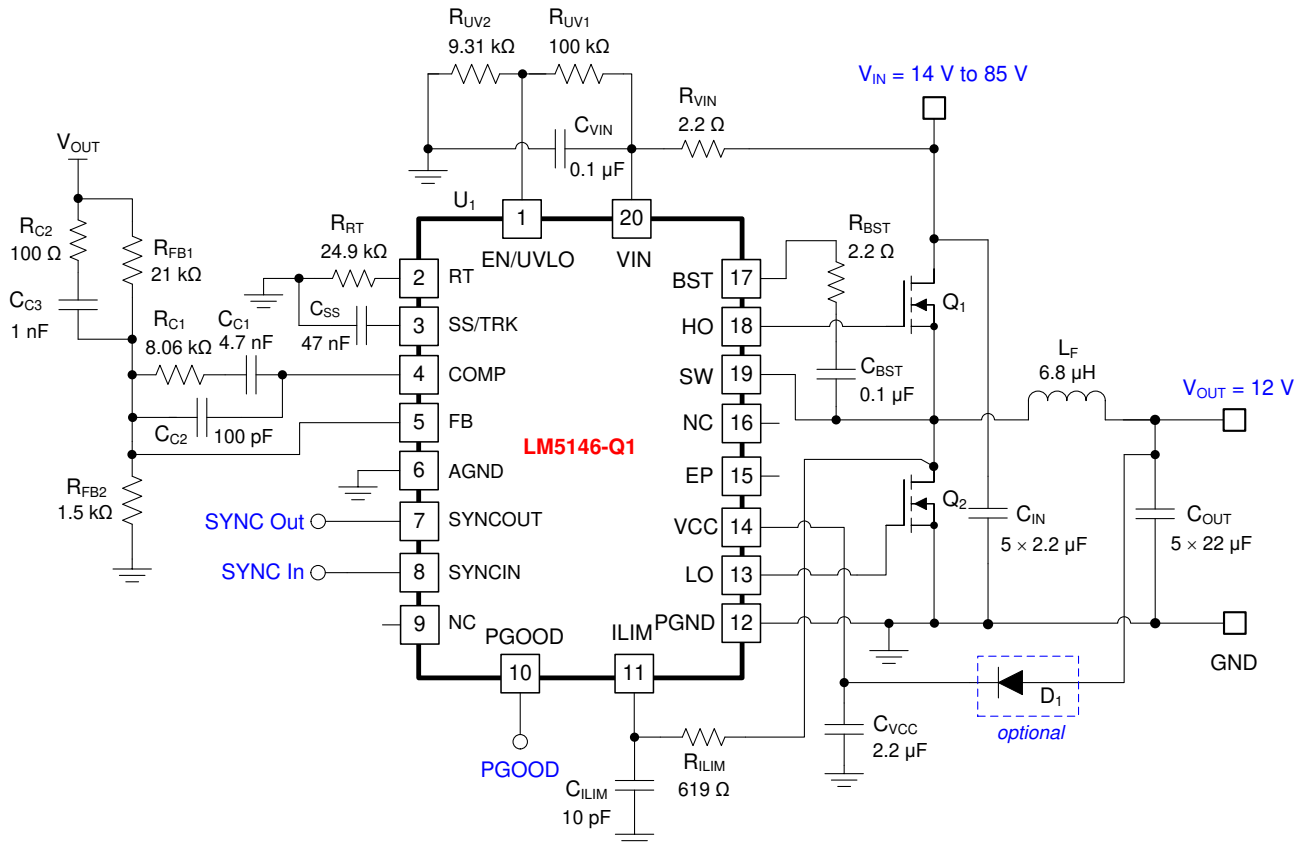

Figure 9-16. Application Circuit 2 With LM5146-Q1 48-V to 12-A Synchronous Buck Regulator at 400 kHz
Figure 9-16 shows the schematic diagram of a 400-kHz, 12-V output, 8-A synchronous buck regulator intended for 48-V automotive battery applications.
As shown in Figure 9-16, a 2.2-Ω resistor in series with C_{BST} is used to slow the turn-on transition of the high-side MOSFET, reducing the spike amplitude and ringing of the SW node voltage and minimizing the possibility of C_{dv}/dt -induced shoot-through of the low-side MOSFET. If needed, place an RC snubber (for example, 2.2 Ω and 100 pF) close to the drain (SW node) and source (PGND) terminals of the low-side MOSFET to further attenuate any SW node voltage overshoot and/or ringing. Please refer to the application note Reduce Buck Converter EMI and Voltage Stress by Minimizing Inductive Parasitics for more detail.
3. Placing a 2- Ω to 10- Ω resistor in series with the boot capacitor, as shown in Figure 9-16, slows down the high-side MOSFET turn-on transition, serving to reduce the voltage ringing and peak amplitude at the SW node at the expense of increased MOSFET turnon power loss.